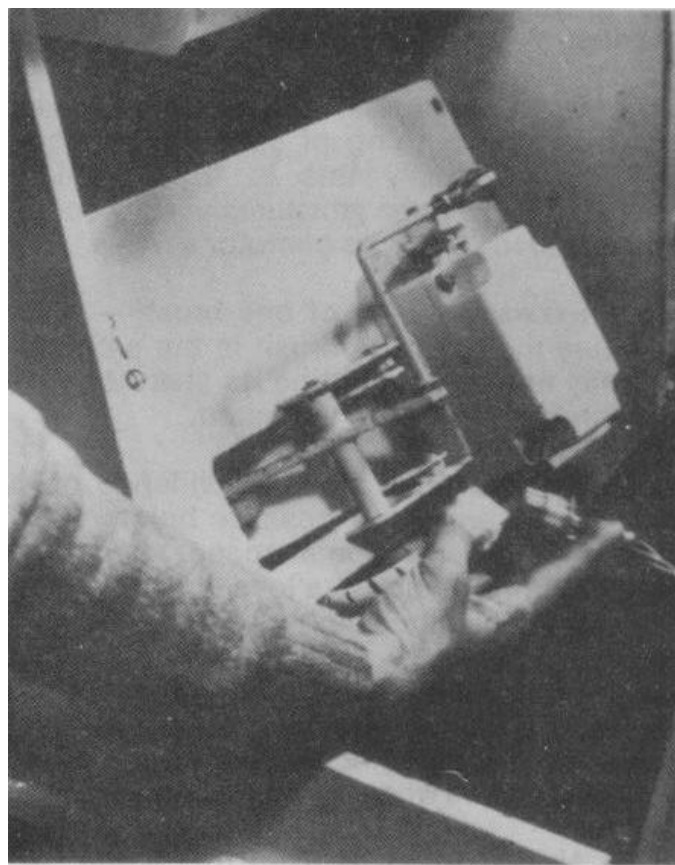

Figure 3-11
3.30 Damaged or bent accelerator foot pedal linkage or loss linkage adjustment can cause 1A switch to remain open. Remove accelerator switch module from truck and examine for damage or worn linkage,(Fig. 3-11).